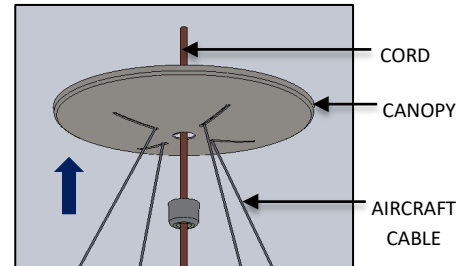

FIG. 16 – CANOPY PLATE INSTALLATION
8. Pass the CANOPY through the AIRCRAFT CABLE and CORD in such a way that the AIRCRAFT CABLE goes through the oblong slot hole and CORD passes through the center hole on the CANOPY as shown in FIG. 16 below.